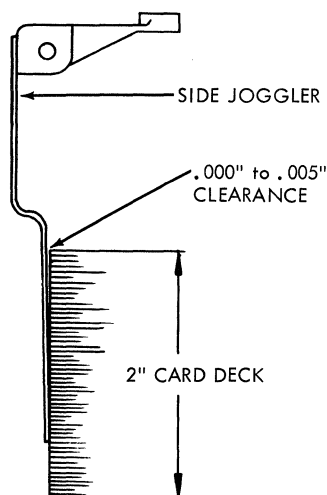

Figure 2-10A. Side Jogger Adjustments
1. With a two inch column of cards in the hopper, turn the file feed drive until the hopper jogger cam follower is on the high dwell of the cam. Set the adjusting screw for $.000''$ to $.005''$ clearance between the top of the deck and the jogger arm (Figure 2-10A). NOTE: There is no timing relationship between the side and front jogger cams, nor between the cams and the feed knives. The front jogger cams should however, be even with each other.